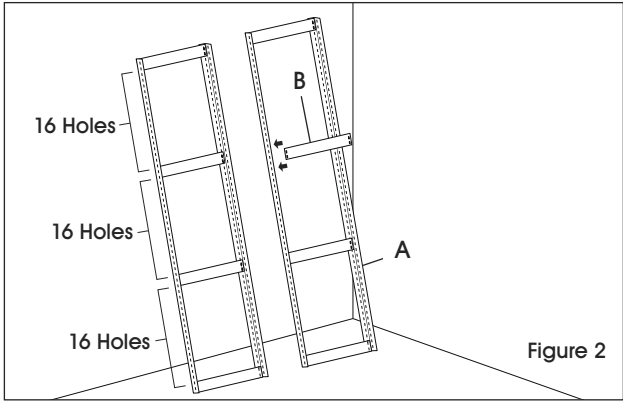

Figure 2
3. Evenly space out the remaining two shelf levels using the side supports (B). (See Figure 2)